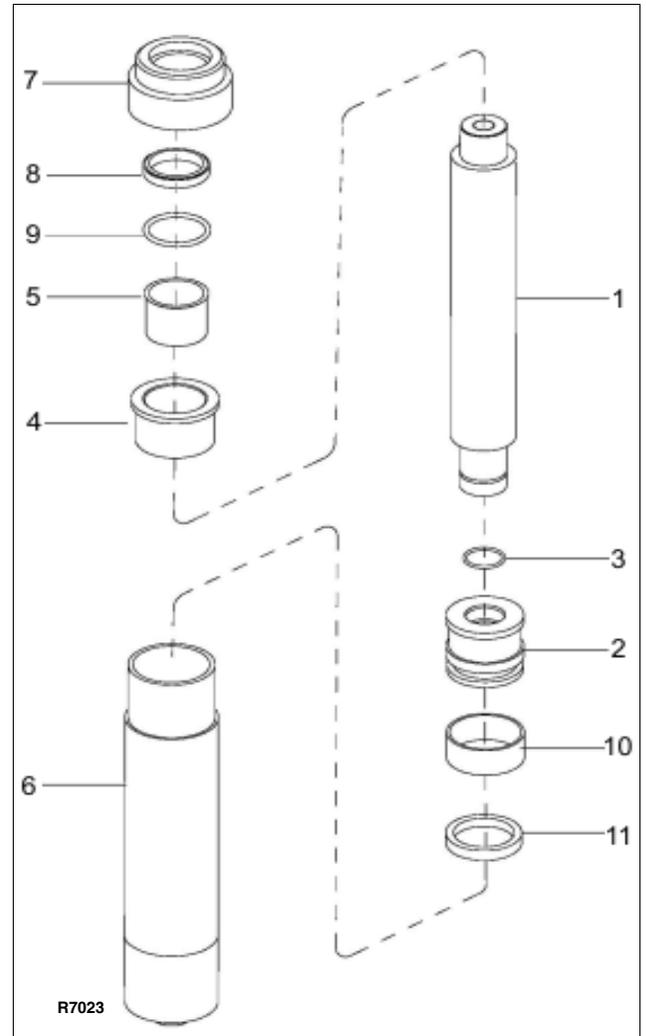

Figure 8-4 Lift Cylinder (Telescopic)
2. Remove gland nut (7, Figure 8-4).
3. Remove wiper ring (8) and O-ring (9) from gland nut (7).
4. Pull out piston rod (1).
5. Remove bearing (5) and bushing (4).
6. Remove piston (2) and O-ring (3) from rod (1).
7. Remove guide ring (10) and seal (11) from piston (2).